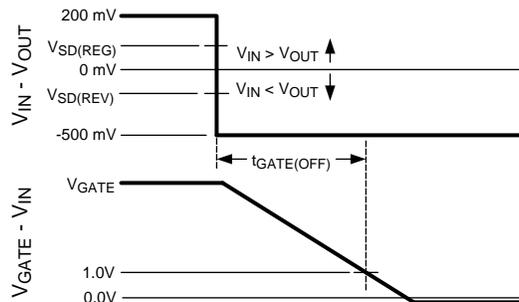

Figure 4. Gate Off Timing for Forward to Reverse Transition
(1) Measurement of  $V_{GS}$  voltage (i.e.  $V_{GATE} - V_{IN}$ ) includes  $1\text{ M}\Omega$  in parallel with  $C_{GATE}$ .
(2) Time from  $V_{IN} - V_{OUT}$  voltage transition from  $200\text{ mV}$  to  $-500\text{ mV}$  until GATE pin voltage falls to  $V_{IN} + 1\text{V}$ . See Figure 4